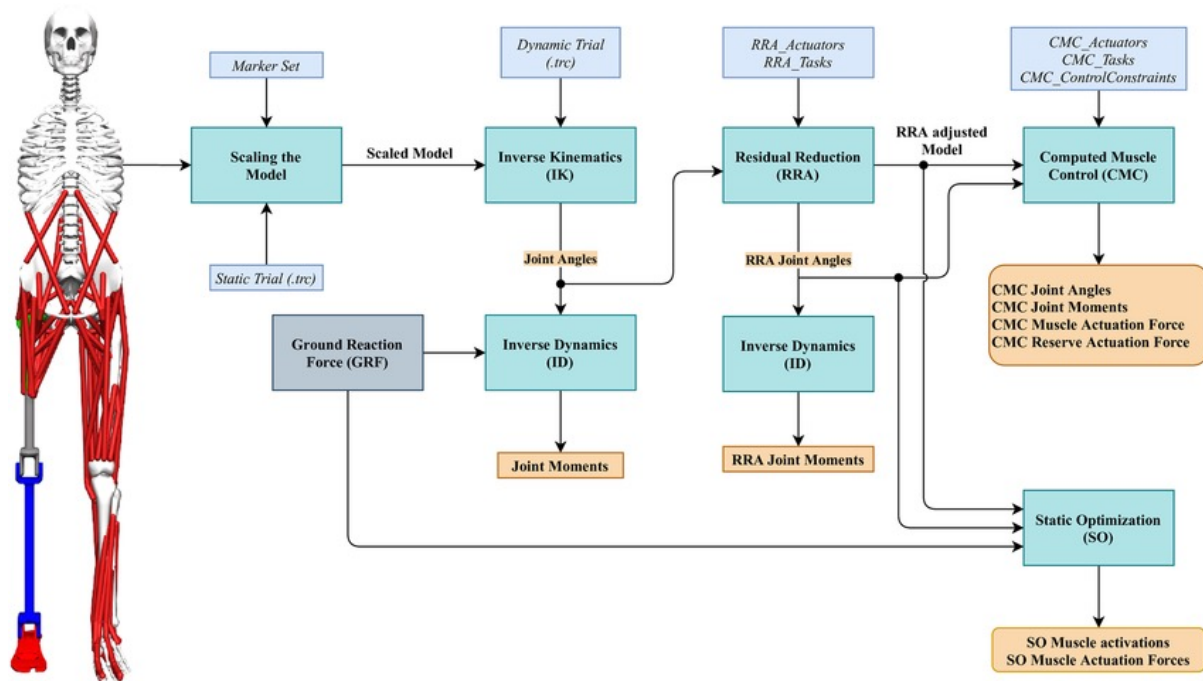

Figure 29: Workflow to perform the forward dynamics simulation in OpenSim
- **OpenSim**: open source tool for musculoskeletal modeling, inverse/forward dynamics, gait simulation, surgical scenario testing (see Figure 29 above).